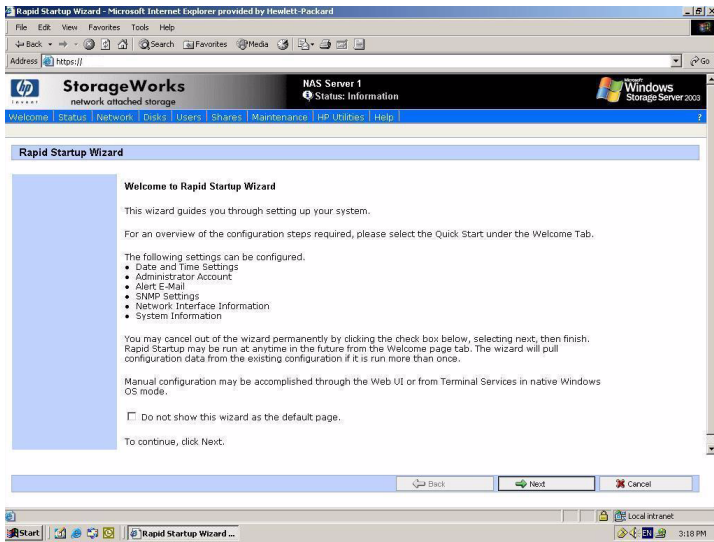

Figure 8: Rapid Startup wizard screen
10. Login to the WebUI. This launches the WebUI configuration application (Rapid Startup) on the target HP StorageWorks NAS device, as shown in Figure 8.
4. Login to the WebUI. This launches the WebUI configuration application (Rapid Startup) on the target HP StorageWorks NAS device, as shown in Figure 8.
3. Open Internet Explorer to launch the WebUI configuration application (Rapid Startup) on the target NAS device, as shown in Figure 8. If the WebUI does not launch connect to the *LocalHost* and login to the WebUI.
Ensure that an Internet Explorer window has been opened and the WebUI is at the Rapid Startup Wizard as shown in Figure 8.